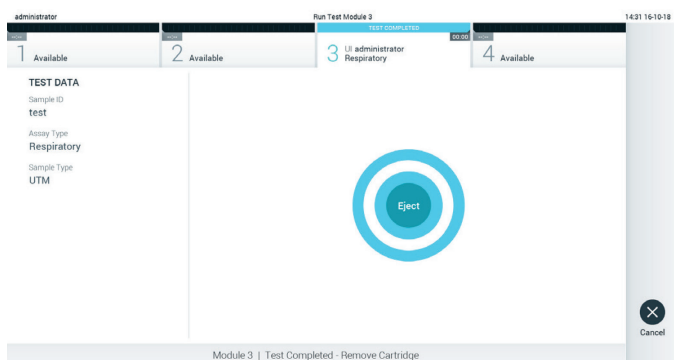

Figure 29. Eject screen display.
10. After the test run is completed, the **Eject** screen will appear (Figure 29). Press **Eject** on the touchscreen to remove the QIAstat-Dx assay cartridge and dispose of it as biohazardous waste in accordance with all national, state and local health and safety regulations and laws.